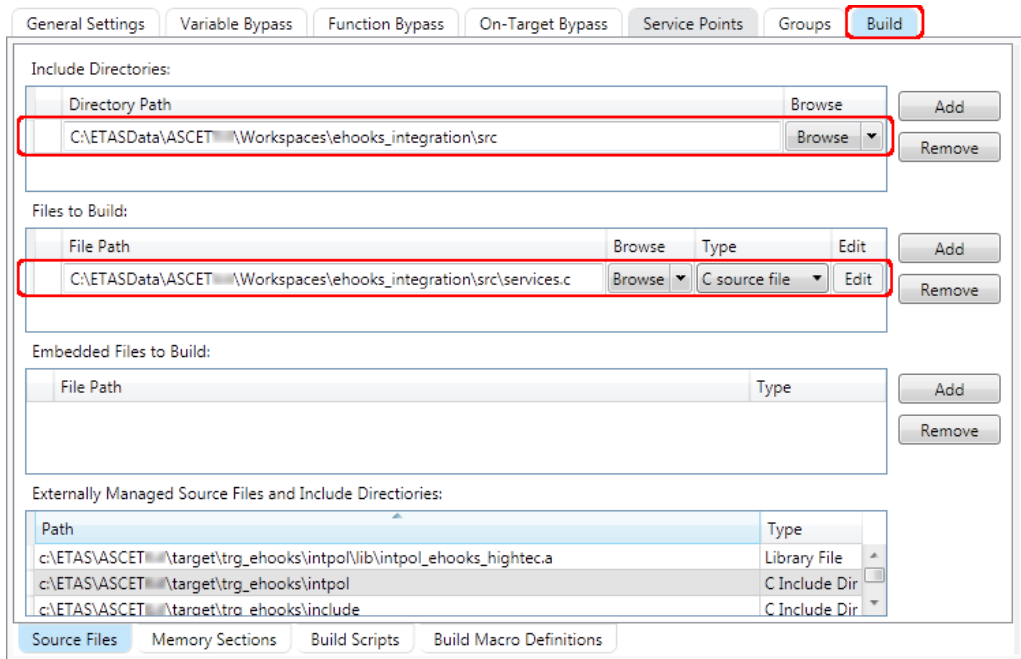

Figure 6.5: Adding a source file to the EHOOKS build
5. Add the path(s) to the include directories and the names of the source files and/or library files for your arithmetic services to the EHOOKS build as shown in Figure 6.5 on the next page.
- D. Add the include path, source files and/or library files for your interpolation routines to the EHOOKS build as shown in Figure 6.5 on page 87.